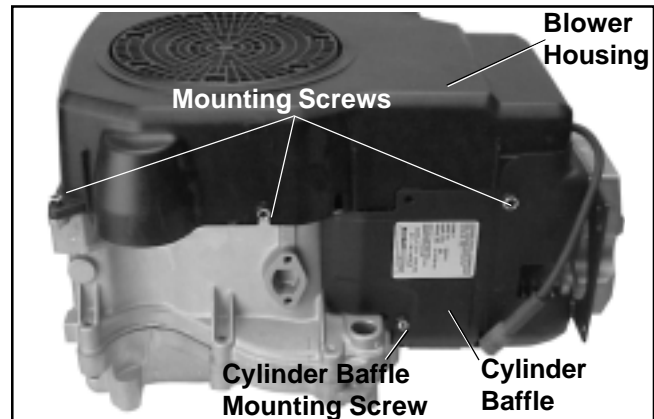

Figure 9-15. Removing Blower Housing and Baffles.
1. See Figure 9-15, 9-16, and 9-17. Remove the six screws securing the blower housing and any commonly mounted clamps/brackets. Remove the blower housing.